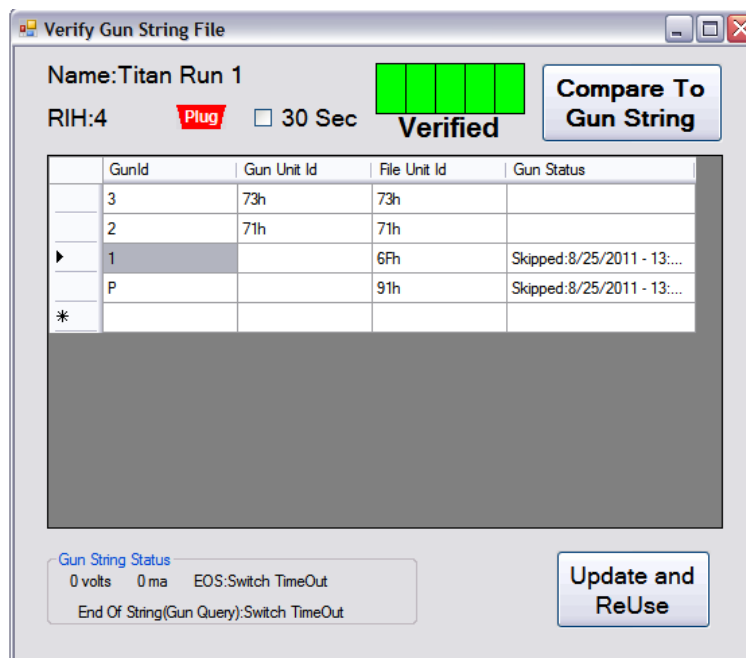

Figure 34
5. Verify the Gun String by selecting the **Compare to Gun String** button. The result of this action is seen on Figure 34. The Gun String is again verified.